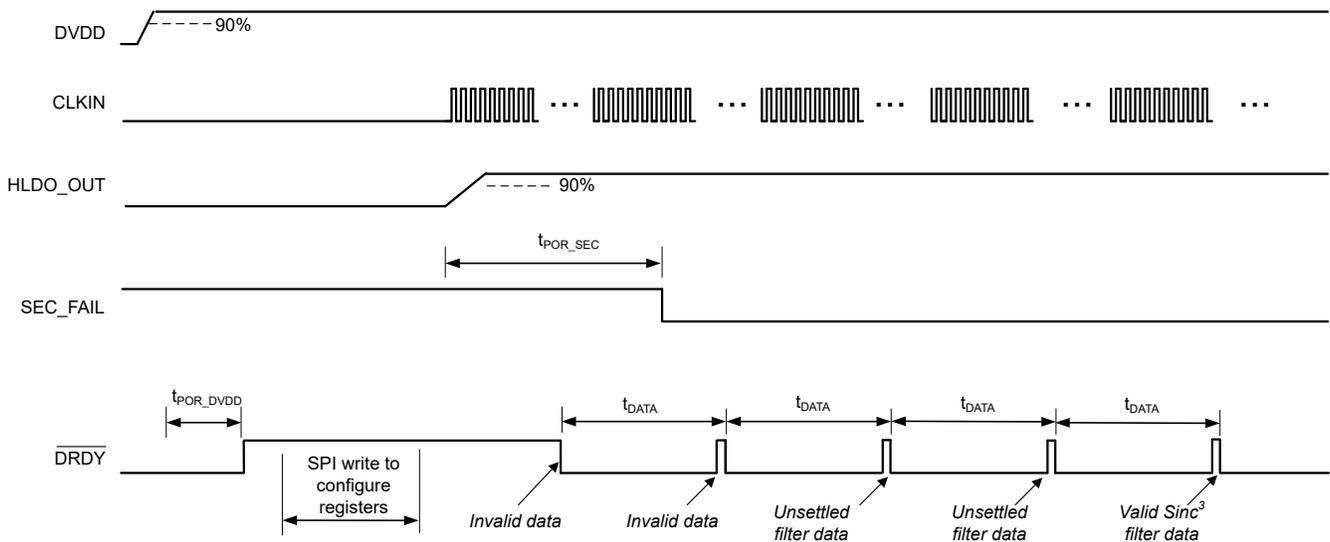
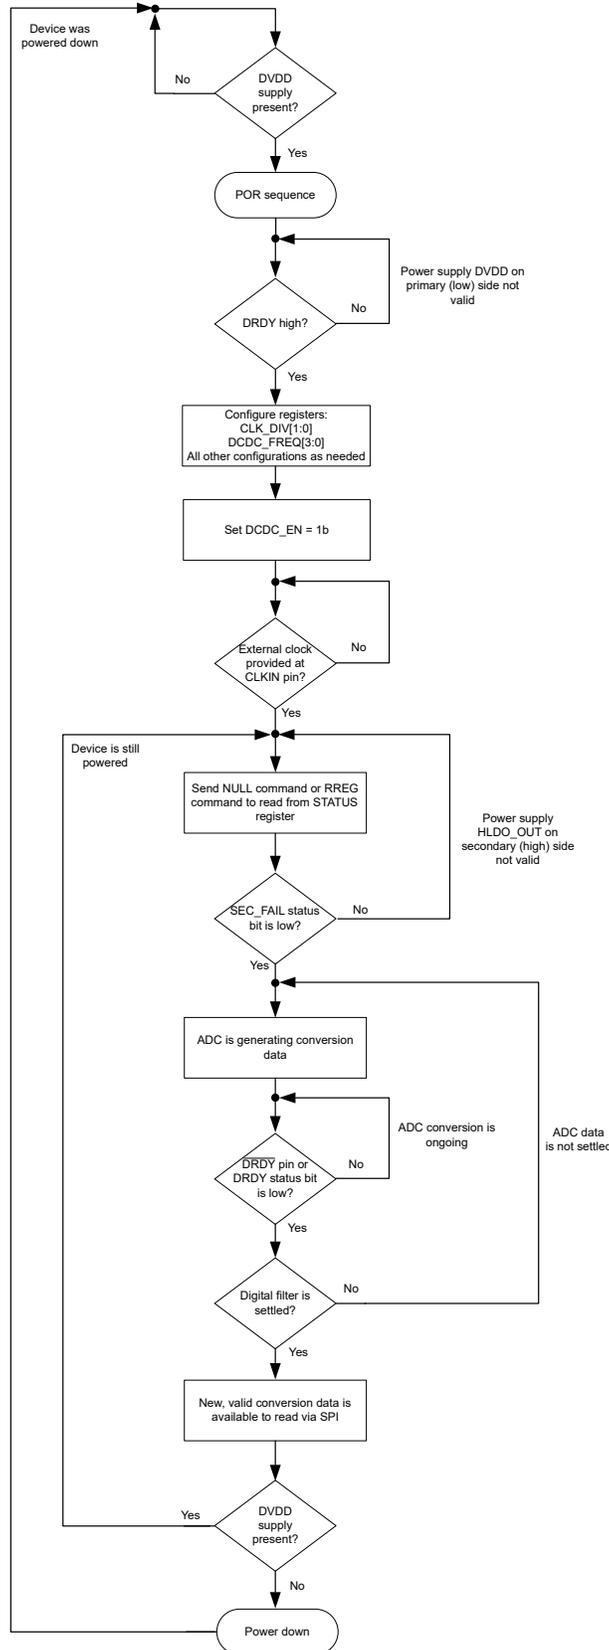

Figure 8-18. Start-Up Behavior at Power-Up and Settling Times, OSR = 1024
図 8-19. Flow Diagram for Start-Up Procedure at Power-Up
A recommended procedure for powering up the AMC130M03 is described in this section. Figure 8-18 depicts a timing diagram for the device behavior when this recommended sequence is used. Figure 8-19 provides a flow diagram that displays the recommended sequence in a graphical form.
- The high-to-low transition of $\overline{\text{DRDY}}$ indicates that new conversion data are available. As given in Figure 8-18, ADC data are only valid if the SEC_FAIL reads 0b during the conversion period. The first two conversion results shown in Figure 8-18, represent invalid data.
- When the ADC generates valid data, the digital filter must settle, as described in the SINC³ and SINC³ + SINC¹ Filter section. Two subsequent conversion results illustrated in Figure 8-18 are unsettled (assuming OSR equals 1024), and the last conversion result shown provides valid and settled data.
In Figure 8-18, $t_{\text{POR_SEC}}$ is the time from enabling the DC/DC converter to the first falling edge of the SEC_FAIL bit, which indicates that the secondary power supply at the HLDO_OUT pin is stable. $t_{\text{POR_DVDD}}$ is the time from DVDD supply at 90% to $\overline{\text{DRDY}}$ first rising edge.